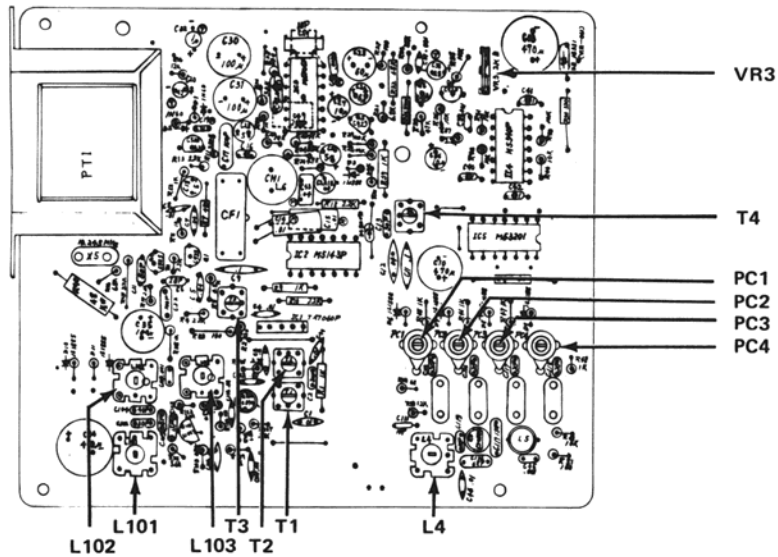

Figure 5-1 Adjustment Locations for SCAN 10-4H and 10-4L
4. Tune T1, T2, and T3 for maximum indication on the meter. Reduce the signal generator level to maintain approximately 0.5 volts on the meter. This procedure is common to all models. Refer to Figure 5-1.
A. Models 10-4H and 10-4L (Figure 5-1)
5.2.4 FM Detector Coil Alignment (Figure 5-1)
5.3 VOLUME LIMIT POTENTIOMETER ADJUSTMENT (Figure 5-1)